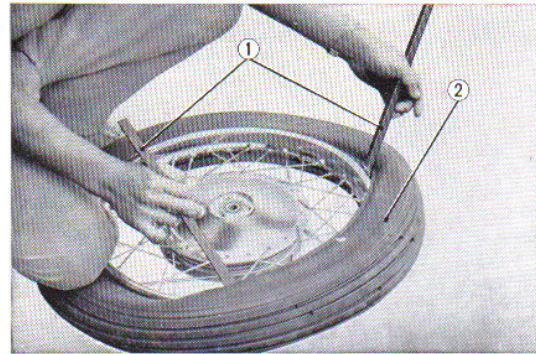

Fig. 4.80 Installing the tire
1. The tube can be easily mounted by inflating with small amount of air to make the tube firm. (Fig. 4.80)